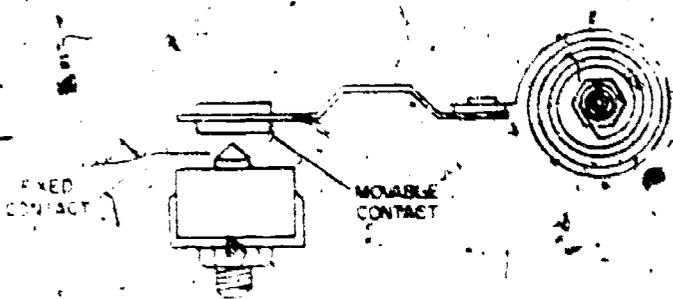
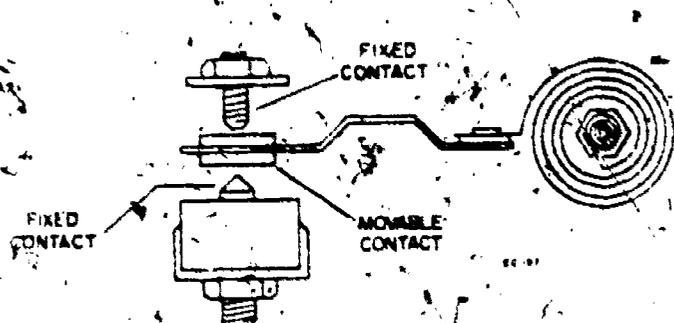

Figure 1. SPST Snap Acting Switch
Figure 2. SPDT Snap Acting Switch
**SNAP ACTING SWITCHES.** These switches are constructed with fixed contacts securely attached to the thermostat base. These fixed contacts are mounted inside a permanent round magnet which provides a magnetic field in the area of the contacts. The movable contact is attached to a bimetal element. Upon a decrease in temperature it will move towards the fixed contact. As the contact enters the magnetic field, the magnetic field "pulls" this contact against the fixed contact with a positive snap. As the temperature increases the bimetal becomes warmer and wants to pull the movable contact away from the fixed contact. Because the movable contact is in the magnetic field, the bimetal does not (at this instant) have enough force to overcome the magnetic force. As the bimetal continues to warm and bend, it soon develops enough force to overcome the magnetic field. The movable contact breaks away with a positive snap. Figure 1 illustrates an SPST snap switch. Figure 2 illustrates an SPDT snap switch.